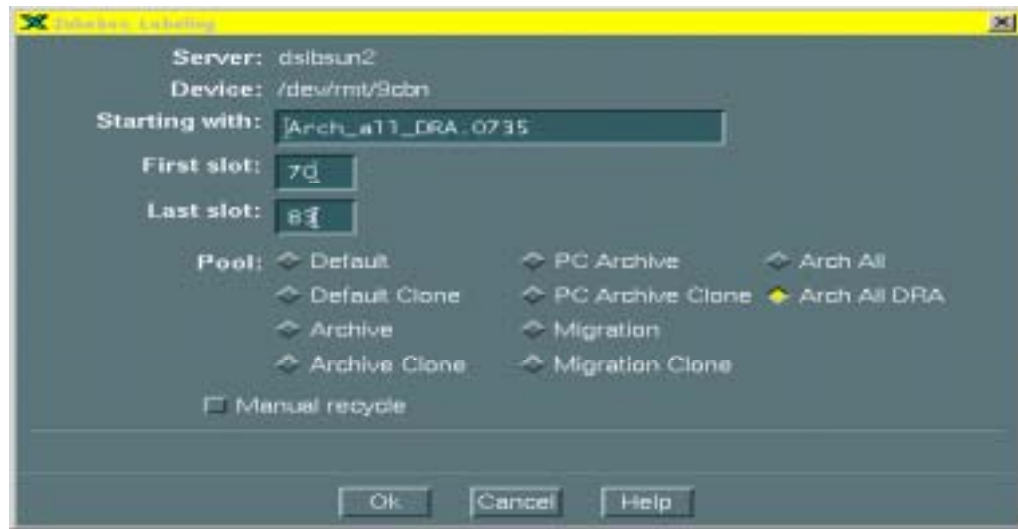

Figure 18.2 – Jukebox Labeling Screen
5. When all the slots are loaded, label the tapes in 51 and 57. Click an empty drive (**5 or 6 only**), and click **Label**. There is an example in Figure 18.2.
11. When tape 51 is labeled from the process above and mounted, repeat steps 4 through 7 except that **52** for the first slot and **57** in the last slot will be entered on the screen shown in Figure 18.2.